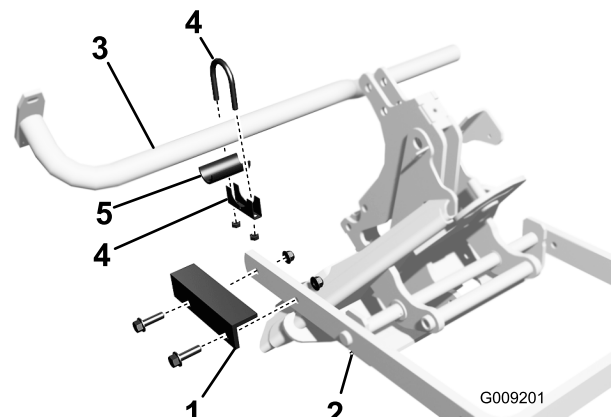

Figure 1
2. Locate the two holes in the lift arm bar that are directly under the traction unit rear frame tube (Figure 1).
3. Using the holes provided, mount the wear pad to the lift arm bar with two flange head bolts and flange nuts. Position the wear pad on the lift arm as shown in Figure 1.
4. Directly above the lift arm, loosely mount the tube wear pad to the under side of the frame tube with the clamp (Figure 1). Offset the clamp on the wear pad so it does not contact the lift arm during operation of the attachment.